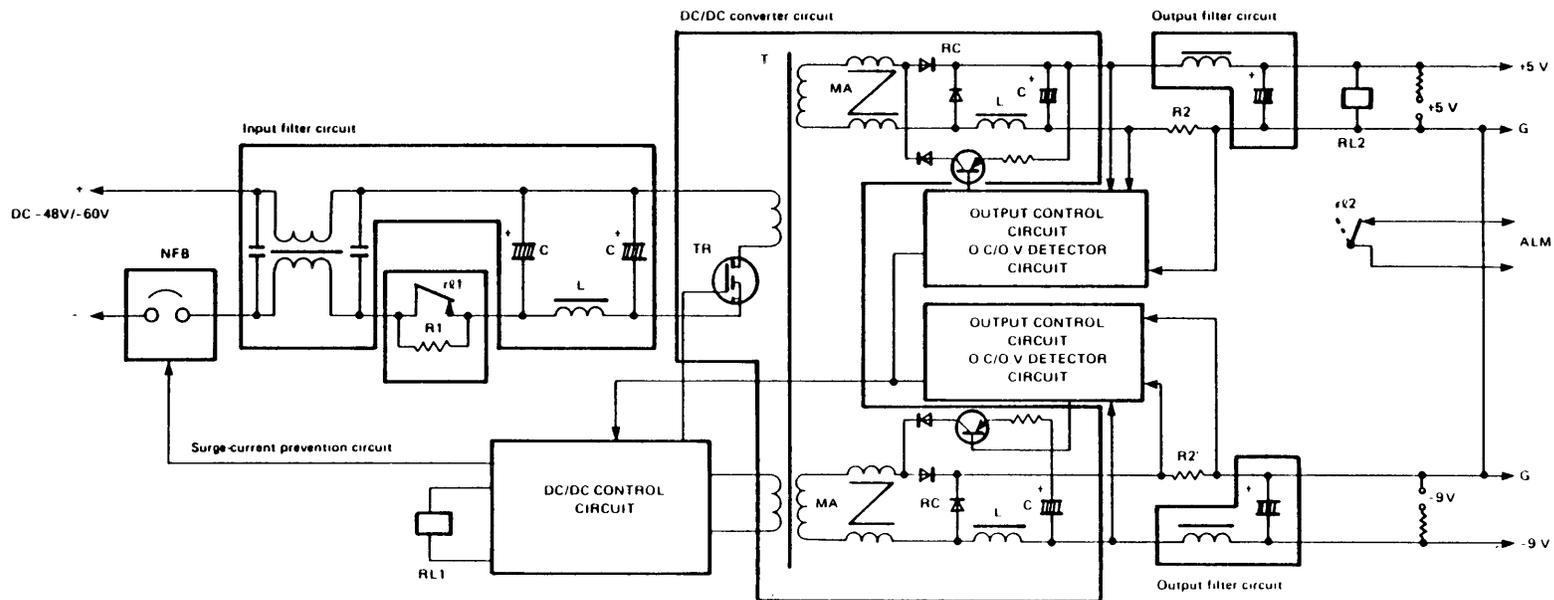

Figure 3-1 PWR Unit (X0319A/B) Block Diagram
3.01 This power (PWR) unit converts -48 Vdc input power into +5 Vdc and -9 Vdc output power. It contains a DC/DC converter and overcurrent/overvoltage protection circuitry. Refer to Figure 3-1, block diagram of this unit.